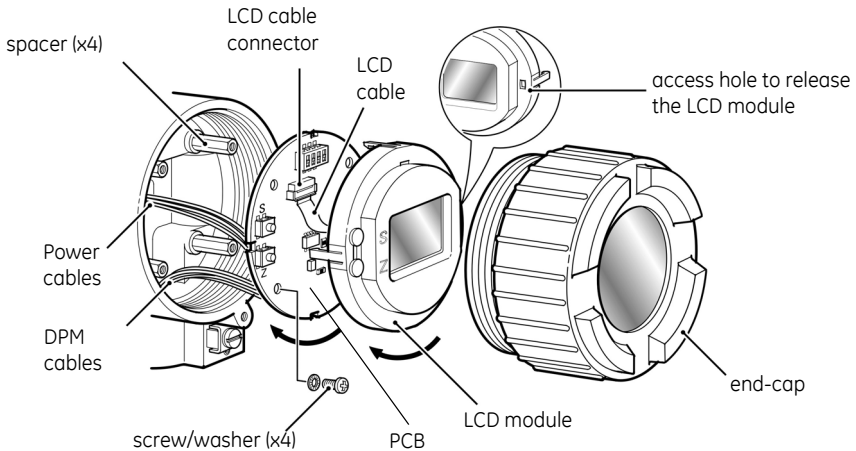

Figure 3-1 LCD module - Turn through 90°
3.4 To Rotate the LCD Module Through 90° (Figure 3-1)